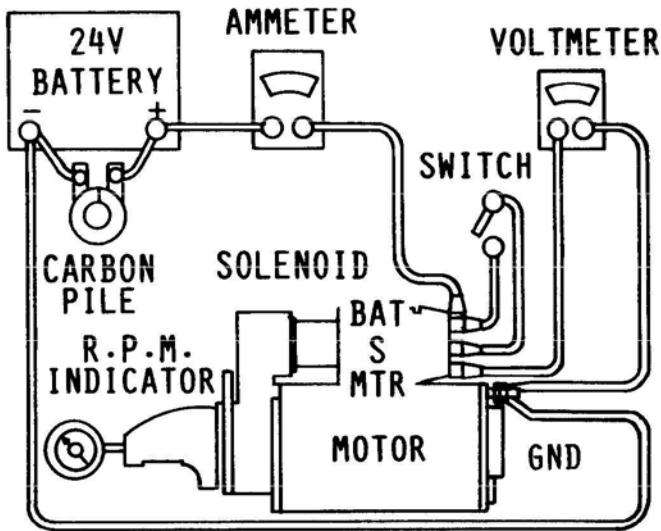

Figure 2-3. No-Load Test Circuit
- 3) No-Load Speed and Current. Connect starter to power supply with circuit equivalent to Figure 2-3. When the switch is closed, the armature should rotate at 5500 to 7500 rpm and current should be in the range of 95A to 120A when applied voltage is at least 20 VDC.